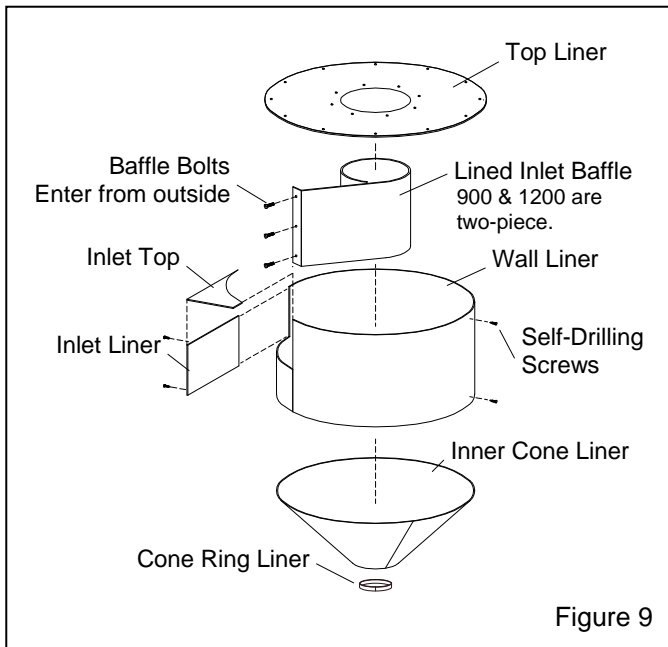

Figure 9
7.2 Replacing Optional Rubber Liners, Figure 9